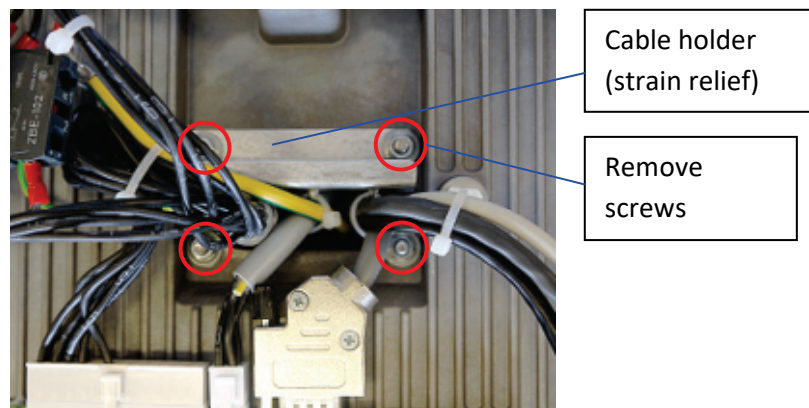

Fig. 51: Remove screws of the cable gland bracket
2. Remove the four retaining screws that secure the cable gland bracket and the cable holder (strain relief) at the inside of the cabinet (see Fig. 51). The cable straps which secure the cables at the cable holder do not need to be removed!
- ☐ Put the cable holder (strain relief) onto the two upper threaded bolts from the inside of the rear cover (see Fig. 51).
- ☐ Fasten the four M4 nuts of the cable gland bracket to a torque of 1.3 Nm (see also Fig. 51).